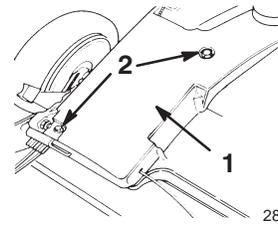

Figure 27
2. Remove the cover (Fig. 27).
2. Remove the bolts that secure the belt cover to the housing (Fig. 27).